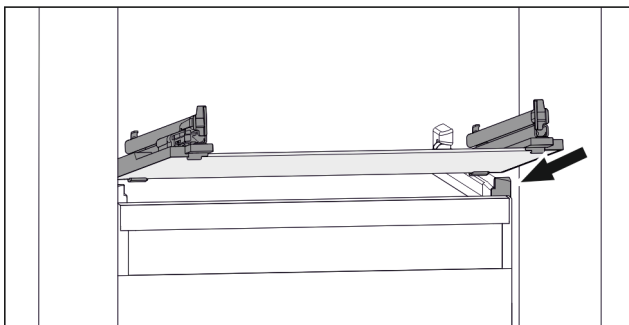

Fig. 49 Example illustration of glass shelf
- ▶ Position glass shelf at an angle behind the stoppers. (see Fig. 49)